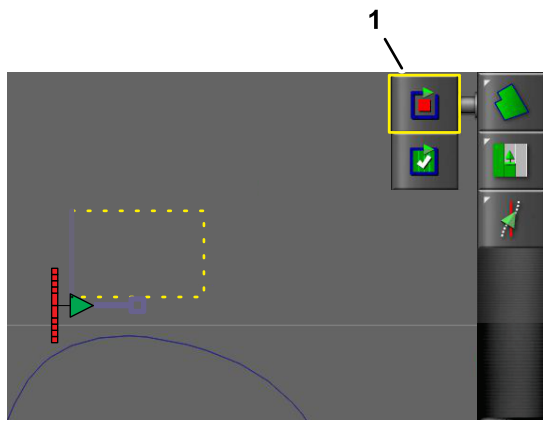

Figure 48
3. Move the machine, and align the outside, center part of the left front tire at the next point of the straight sided field boundary, and stop the machine (Figure 48).
4. Press the RECORD FIELD BOUNDARY icon, and press the PAUSE FIELD BOUNDARY RECORDING icon (Figure 48).